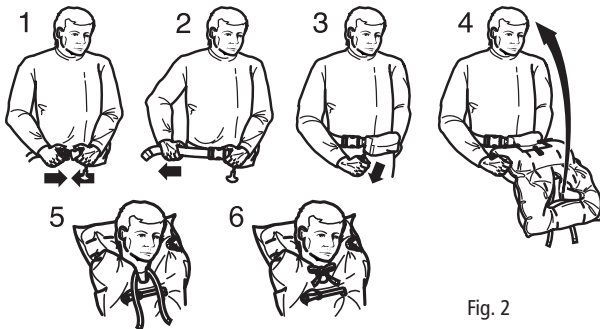

Fig. 2
- 2) Put the inflatable Pouch PFD on just like a standard waist belt pack, and fasten the front buckle. Adjust waist belt to a snug, comfortable fit, and secure the belt’s loose end in the belt loop. Do not wear inflatable PFDs under clothing, as the inflation could be restricted, or you could be injured (Fig. 2, Steps 1 and 2).
Deployment and Use of the PFD (Fig. 2, Steps 3-6).